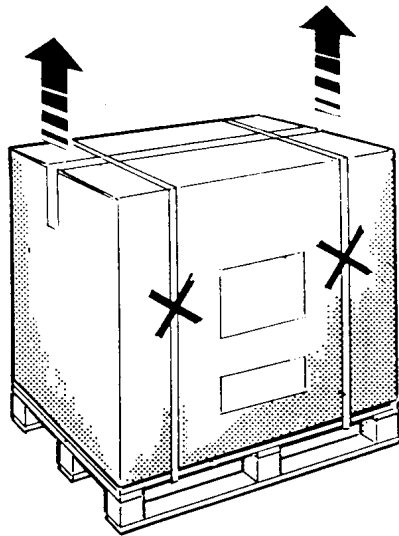

fig.5
- After removing the packing (the straps, seals, cardboard and the pallet as in fig. 5). Check the machine for missing or damaged parts. **If in doubt, do not use the machine** and refer to professionally qualified personnel and/or to the seller.